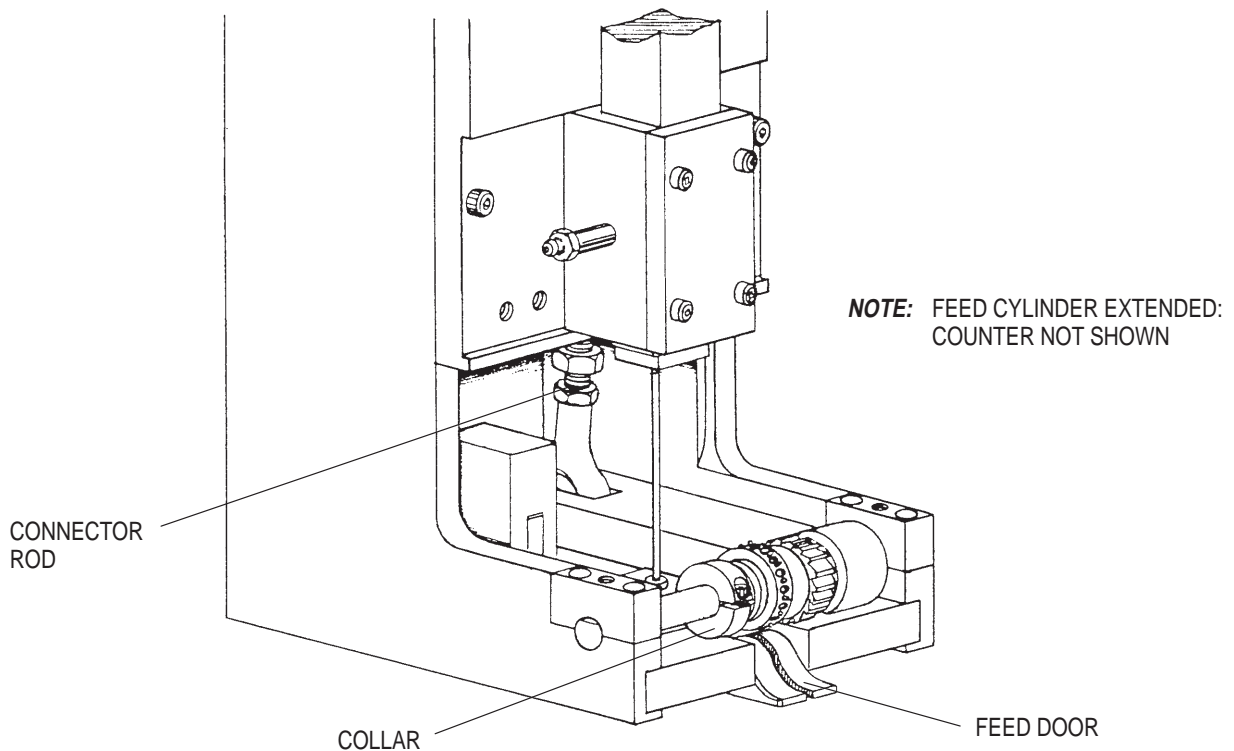

Figure 6-2. Feed Adjustment
6.5. Feed Adjustment (See Figure 6-2)
6.8. Feed Alignment (Figure 6-2)